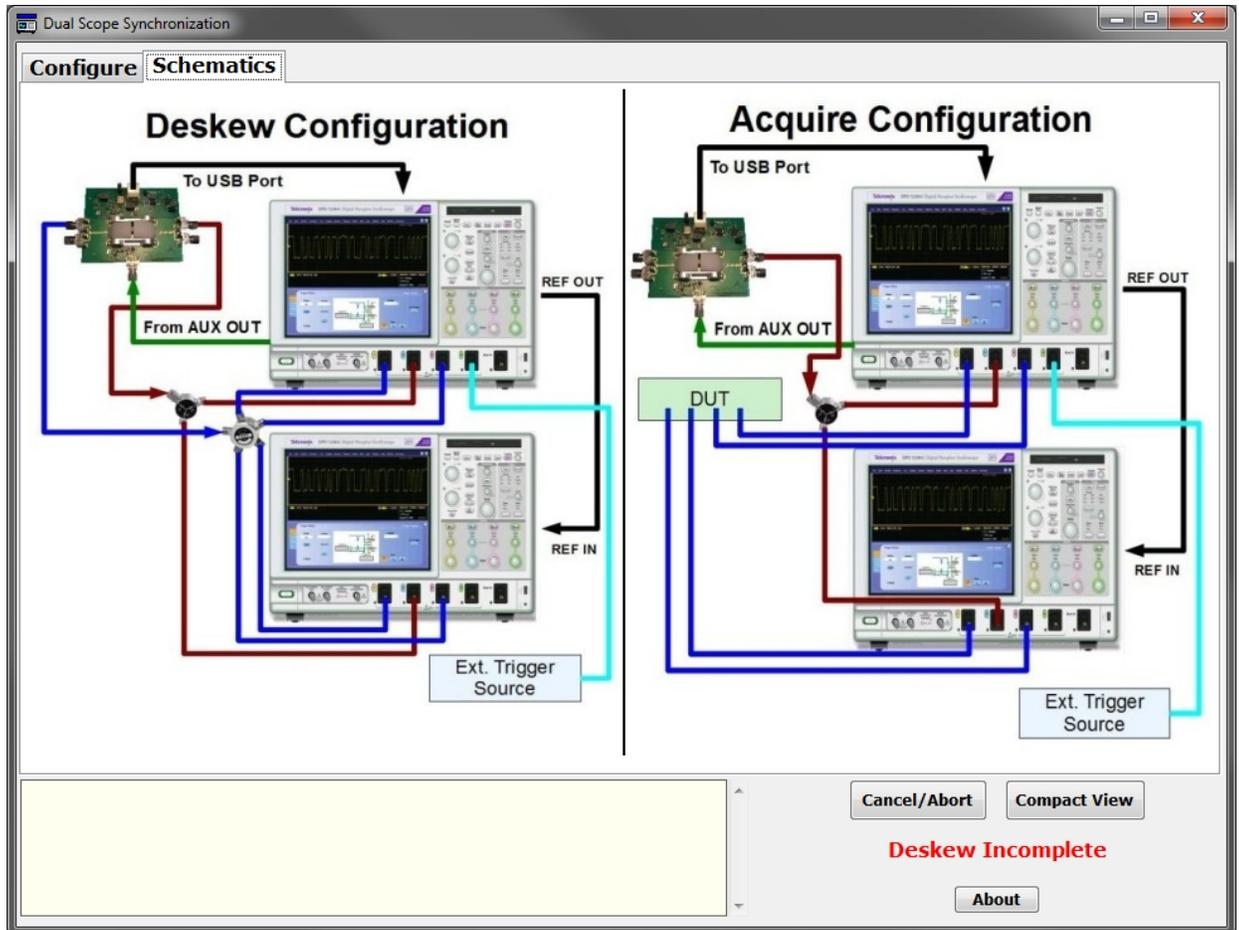

Figure 6: Schematics tab, showing instrument connections for Deskew and Acquire operations
- The auto-config routine will set up the oscilloscopes with instrument settings based on the Deskew configuration shown in the Schematics tab (See Figure 6.).